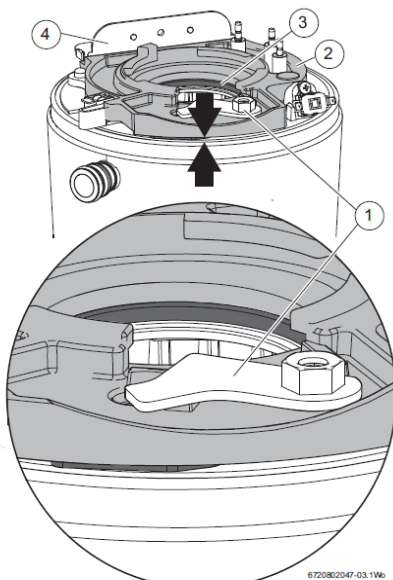

Fig. 103 Initial location of the clamping plate
- ▶ Ensure that the retaining plate [1] is in the position shown in figure 103
- ▶ Initially there will be a gap between the clamping plate and the top of the heat exchanger, refer to figure 103